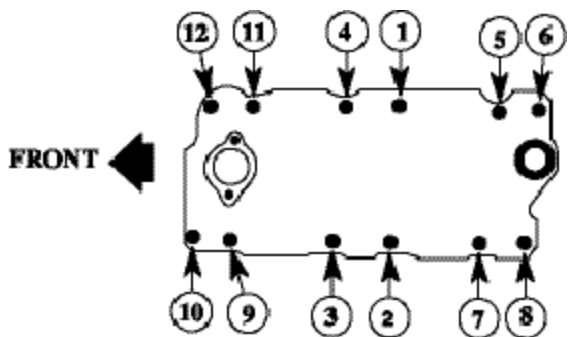

Figure 1
5. Install the intake manifold and hold-down bolts (we offer an intake manifold bolt kit PN 8504 that includes small head, silver Cadmium plated bolts and matching hardened washers). Apply a small amount of silicone to the threads of the eight inner bolts (1, 2, 3, 4, 5, 7, 9, & 11 in Figure 1) to prevent oil weepage, as generally these are not blind holes in the cylinder head. Torque all of the manifold bolts in two steps by the sequence shown in Figure 1 to 25 ft/lbs.